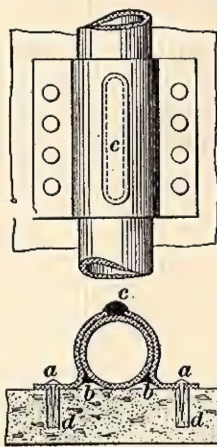

FIG. 32
46. Pipes over 2 inches in diameter are best supported by means of broad **bands**, such as are shown in Fig. 32, which are attached at intervals of about 3 or 4 feet. The width of the bands, along the line of the pipes, measured for pipes of 2, 3, or 4 inches diameter, should be about 6, 8, or 10 inches, respectively. An oblong hole *c* is cut in the front